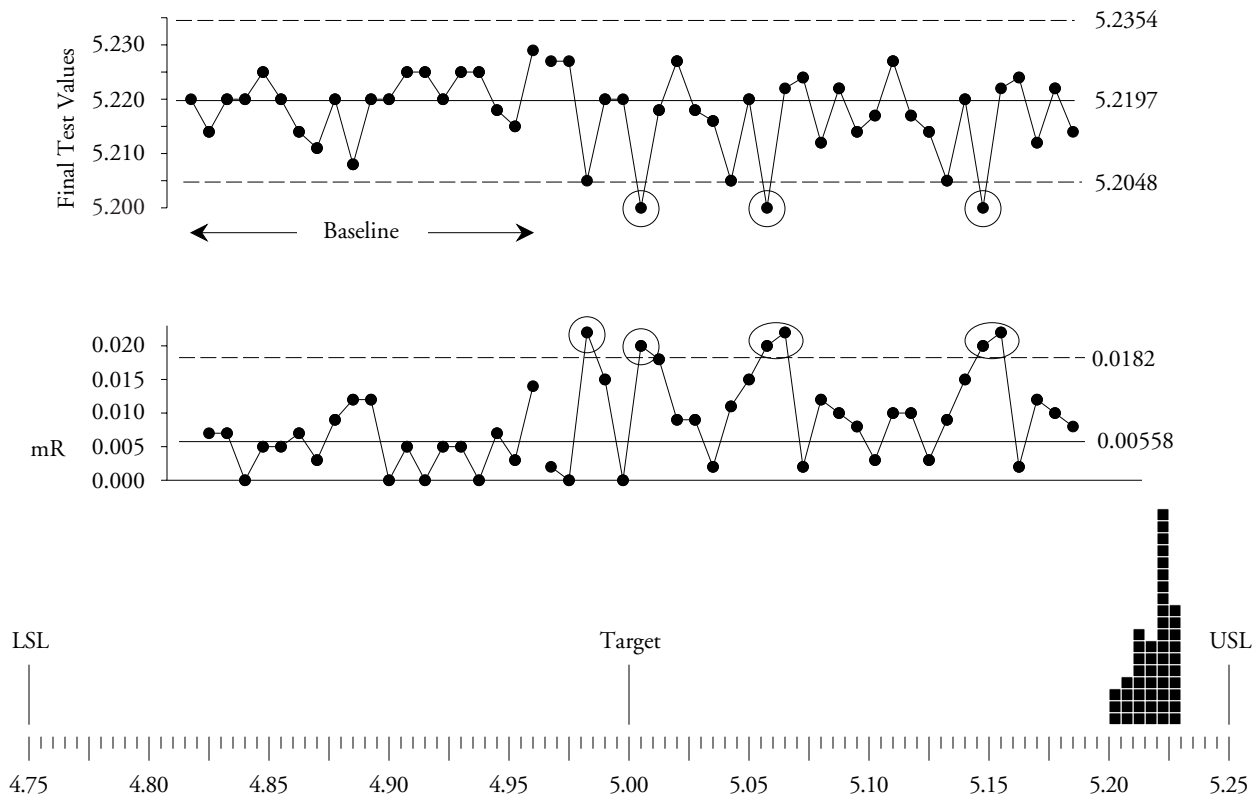

Figure 8:  $XmR$  Chart and Histogram for Final Test Values
**Example Eight:** Another supplier calculated a  $C_p$  of 16.8 and a  $C_{pk}$  of 2.0 for a final test voltage. Since both were above 1.33 no action was taken. However, as noted earlier, this discrepancy between the capability ratios represents an opportunity for centering the process at the target value of 5V. The  $XmR$  Chart for 50 final test values in Figure 8 shows a process that is subject to upsets. The histogram shows how the process is off target.